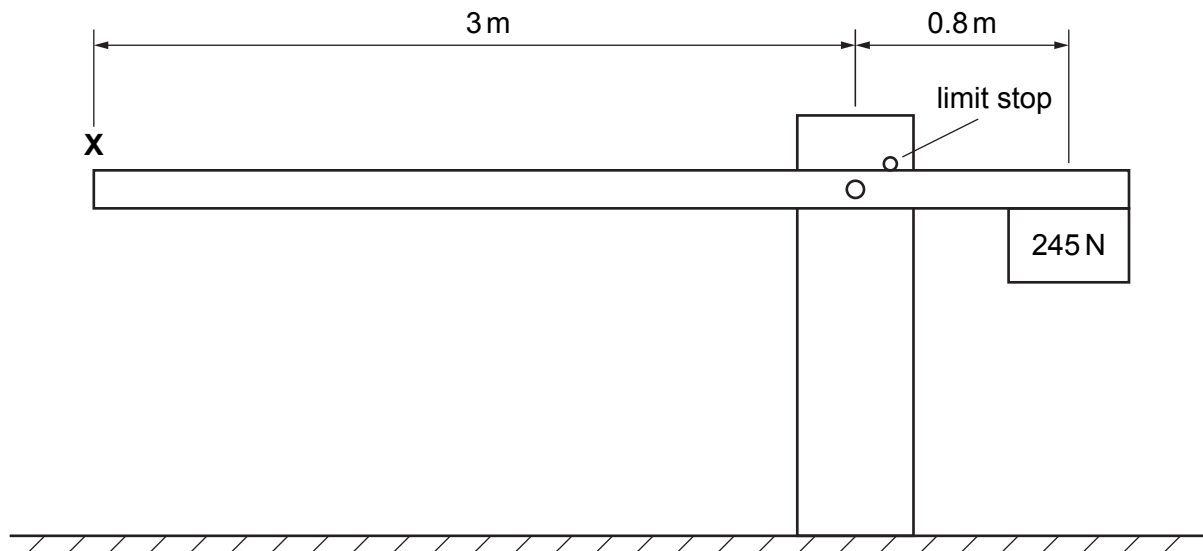

Fig. 10.4
- (d) Fig. 10.4 shows a car park barrier that can be raised or lowered by an electric motor to allow cars through.